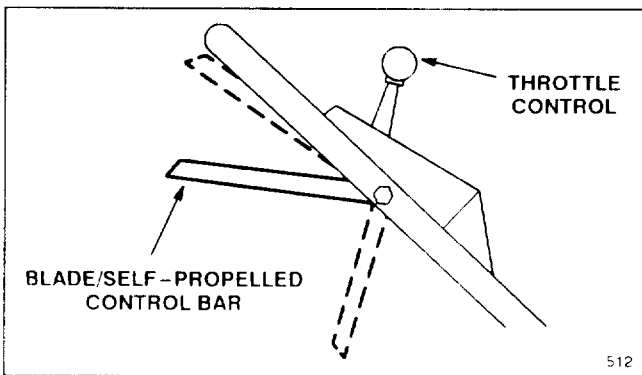
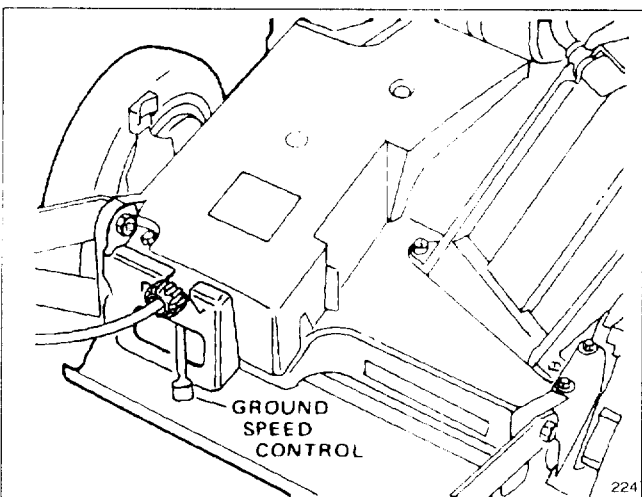

Figure 10
Figure 11
1. CONTROLS—Throttle control and blade/self-propelled control bar are on upper handle (Fig. 10). Ground speed control is located at rear of belt cover (Fig. 11). Recoil starter is on top of engine.